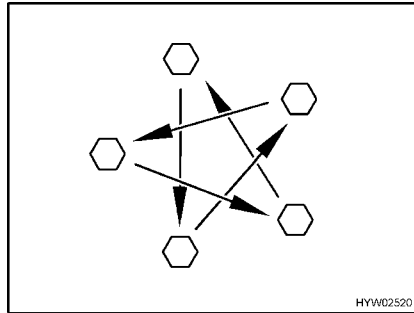

Fig. 226 Tighten the wheel nuts or wheel bolts cross-wise
- Check regularly that the wheel nuts or wheel bolts are firmly seated. Re-tighten the wheel nuts or wheel bolts of a changed wheel after 50 km (30 miles) (Fig. 226).
- When using new or newly painted rims, re-tighten the wheel nuts or wheel bolts once again after approx. 1,000 to 5,000 km (600 miles to 3,000 miles) (Fig. 226).
- ▷ Tighten the wheel nuts or wheel bolts cross-wise (Fig. 226).